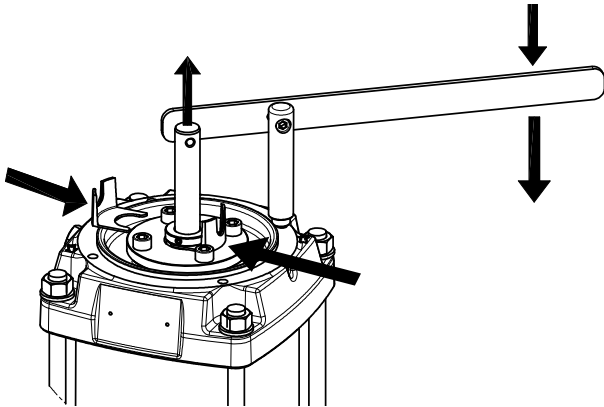

Fig. 5 Insertion of adjusting forks
Lift the pump shaft with the lifting tool (pos. F), and insert two adjusting forks (pos. D) from opposite directions between the shaft seal (pos. 105) and the seal carrier (pos. 58). See fig. 5.